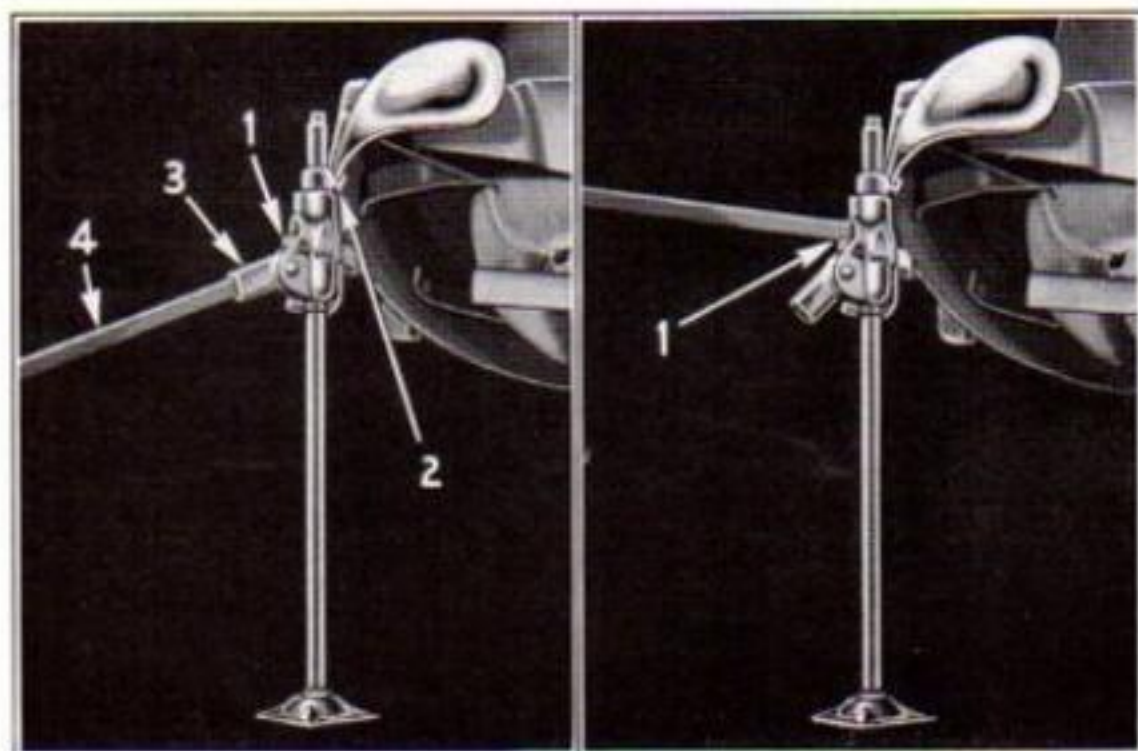

Fig. 31
the jack underneath the bumper as illustrated in Figure 31 and raise the jack body until the projection (2) on the top of the body engages the bumper. If necessary to slide the jack body down on the bar during this operation, press down on the release lever (1) with the thumb. The jack bar must be in a vertical position.